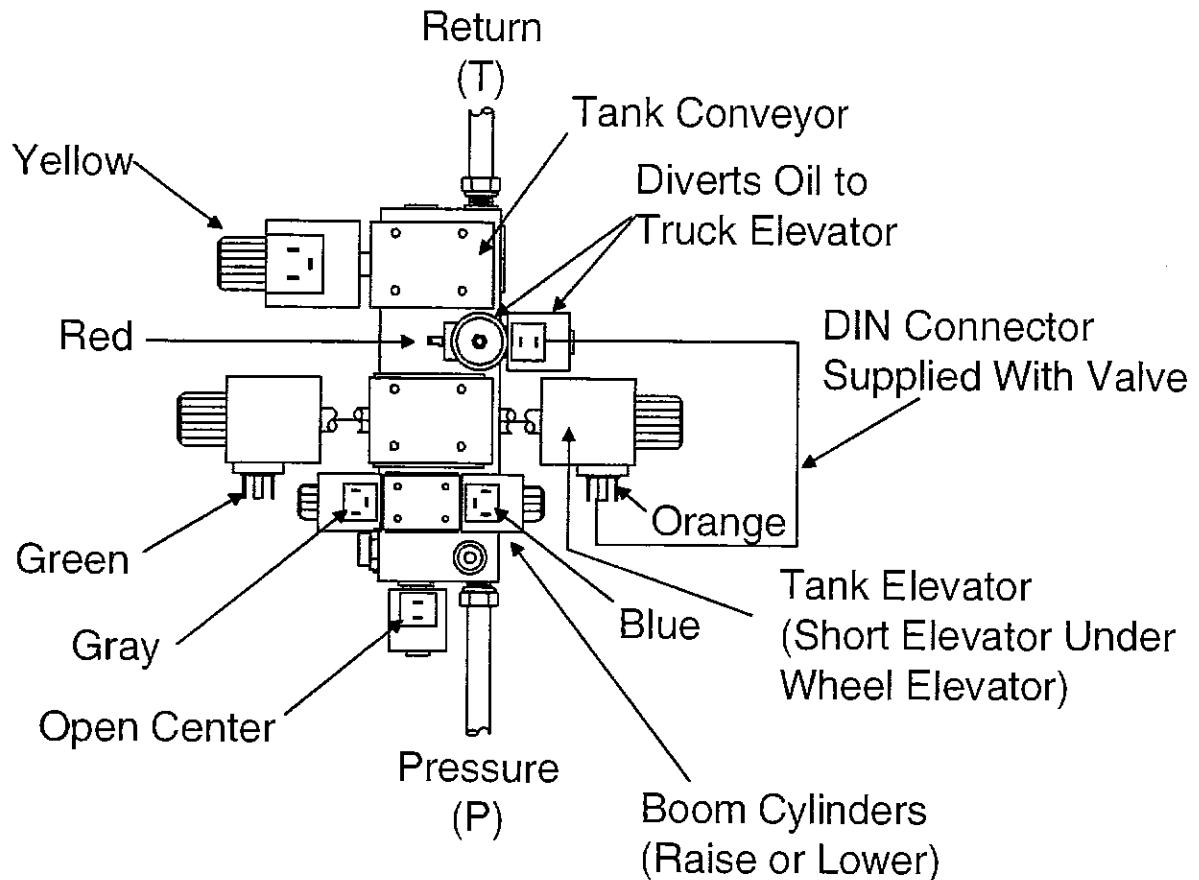

Figure 10. Wiring and Hydraulics
For the procedures below, refer to Figure 10. For a more detailed illustration of the system, refer to Figure 69 on page 53.
2. The pressure side of the valve is identified in Figure 10 as (P). The tractor valve must be set to provide pressure to this port in the valve.